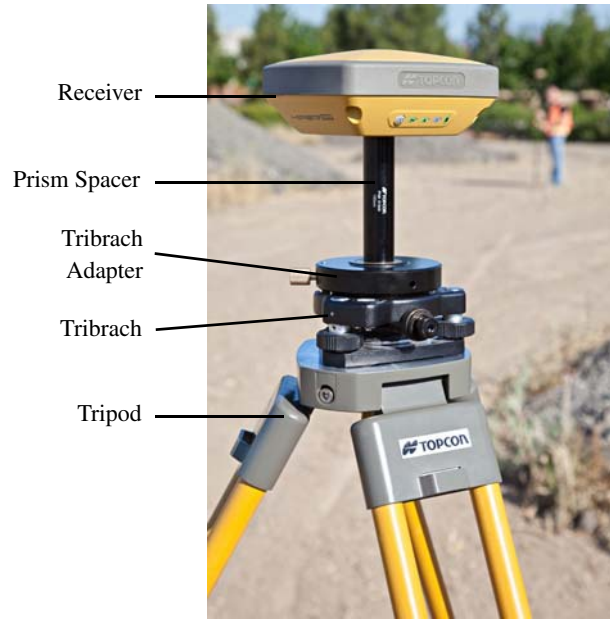

Figure 16: Base Receiver
1. Mount the receiver on a tripod with a tribrach, tribrach adapter, and prism spacer, as shown in Figure 16.